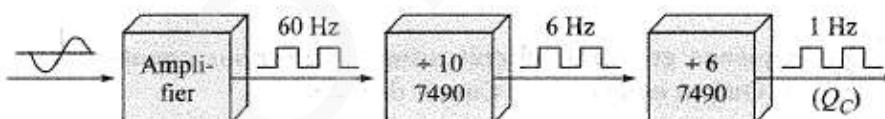

Figure 10.41: Divide-by-60 counter
- 7490 decade counter can be used as a divide-by-10 counter and the 7492 can be used as a divide-by-6 counter. Cascading these two counters will provide a divide-by-60 counter (Figure: 10.41).